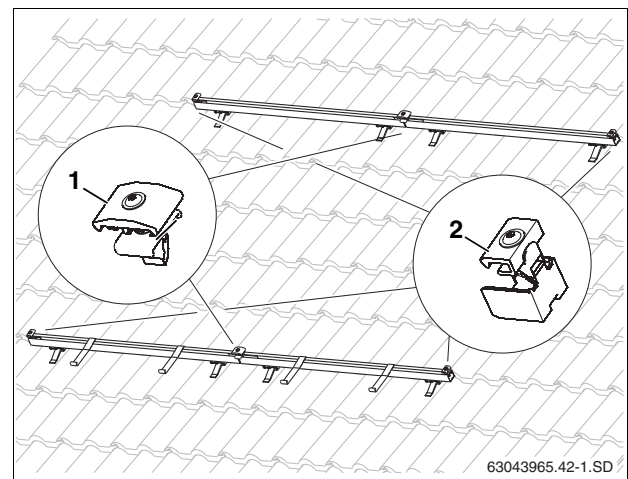

Fig. 37 Single and double sided collector clamps
- Push single-sided collector clamp (Fig. 37, [1]) onto each horizontal rail at one end of the collector array until it clicks into the first slot.